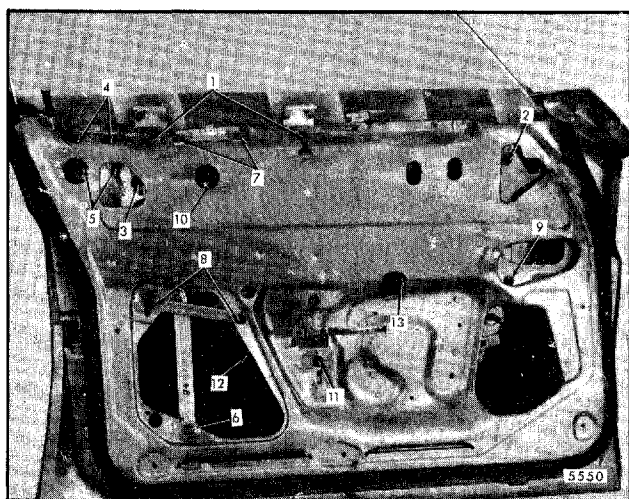
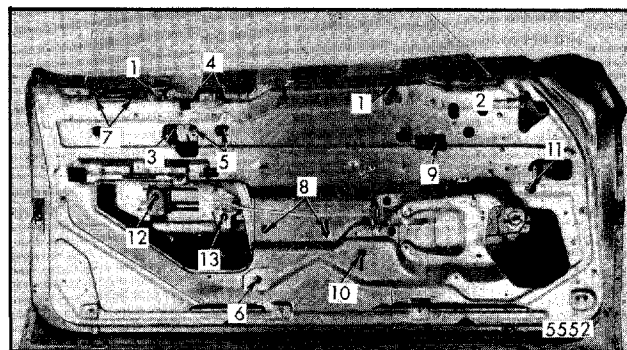
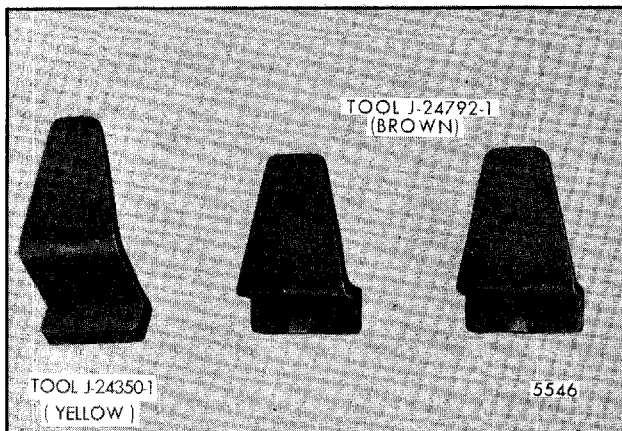

Fig. 5-109-Front Door Window Hardware Attachments - "A-29,35" Styles
Fig. 5-110-Door Window Hardware Attachments - "A-37, 57 and 80" Styles
Fig. 5-111-Glass Alignment Gauge Blocks - Tools J-24350-1 and J-24792-1 or Equivalent (Set of Three Blocks)
In the following steps, the numbers in quotes refer to items in Figure 5-109 for "A-29,35" styles or Figure 5-110 for "A- 37,57,80" styles. After making any adjustments, torque all loosened attachments to 72 in-lb.
The following procedure outlines the use of gauge blocks J- 24792-1 (2 required) and J-24350-1 or equivalent (Fig. 5-111) to consistently align the door glass. In the following steps the numbers in quotes refer to items in Figure 5-109 for "A-29,35" styles or Figure 5-110 for "A-37,57,80" styles unless otherwise specified.
- a. Front and rear belt trim support retainers ("1", Figure 5-109).
- b. Front and rear up-travel stops ("2" and "3", Figure 5-109).
- c. Stabilizer guide assembly on inner panel ("7", Figure 5-109).
3. Operate window to a one-half up position and remove front and rear lower sash channel cam attaching nuts ("12" and "13", Fig. 5-109). Then raise glass to full-up position and remove lower sash channel cam center attaching nut ("10", Fig. 5-109).
4. Mark location and remove upper and lower rear guide to door inner panel attaching screws ("4" and "6", Fig. 5-109). Disengage guide from roller and lay guide in bottom of door.
2. With glass in a half-raised position, remove front and rear up-travel stops ("2" and "3", Fig. 5-110), front and rear belt trim support retainers ("1", Fig. 5-110) and stabilizer guide assembly
on inner panel and door glass ("7" and "12", Fig. 5-110).
3. Remove lower sash channel cam to glass center attaching nut ("13", Fig. 5-110).
4. Remove rear guide upper bracket ("4", Fig. 5-110) and lower guide ("6", Fig. 5-110) attaching screws, disengage guide from roller, and lay guide in bottom of door.
5. Remove lower sash channel cam to glass front attaching nut ("9", Fig. 5-110).